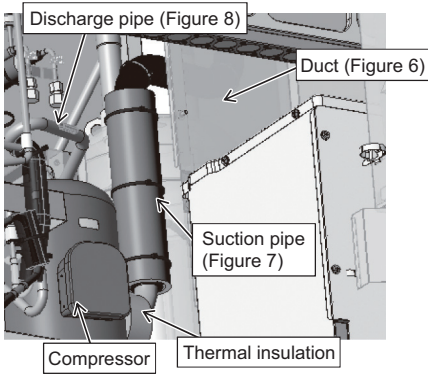

Figure 5
- (5) Remove the thermal insulation. (See Figure 5.)